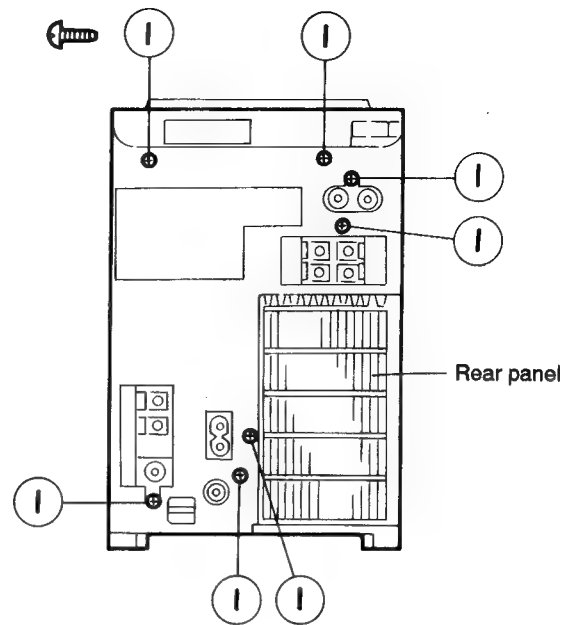

Fig. 5-1
(See Figs. 5-1 and 5-2)
1. From behind the body, remove the seven screws ① retaining the rear panel (See Fig. 5-1).